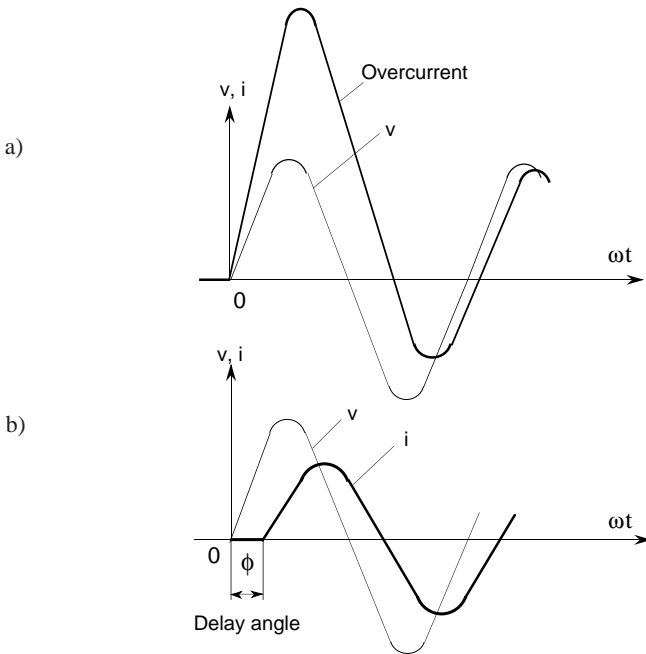

Figure 5-5 Inductive load switching at zero voltage a) and with delay angle b)
**For an inductive load,** firing at zero voltage creates transient overcurrents (Figure 5-5, a), which could, in certain cases, cause saturation of a magnetic circuit and a blow-out of the high-speed thyristor protection fuse.
To avoid overcurrent, the initial firing of the thyristors can be delayed with reference to the zero crossing (Figure 5-5, b).